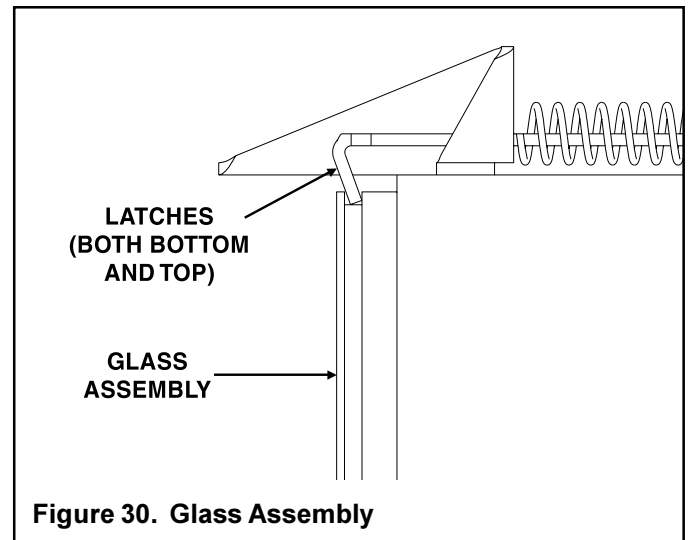

Figure 30. Glass Assembly
- Pull the four glass latches out of the groove on the glass frame. Lift trim door up and out of the unit (see Figure 30).